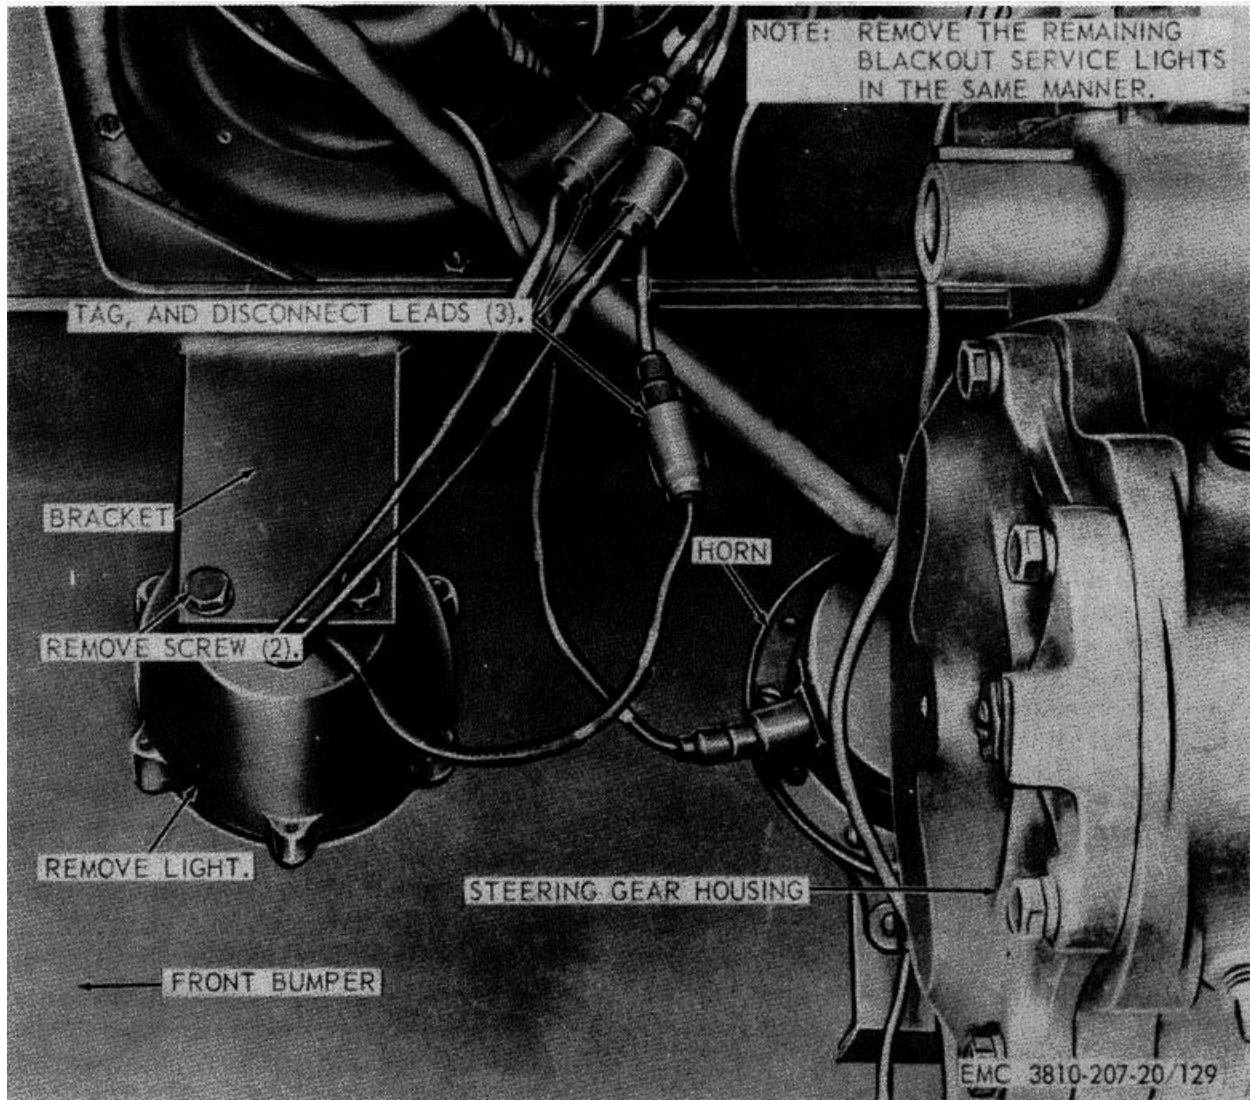

Figure 129. Blackout service light, removal and installation.
a. Removal. Remove the front or rear blackout service light as instructed on figure 129.
e. Installation. Install the front or rear blackout service light as illustrated on figure 129.